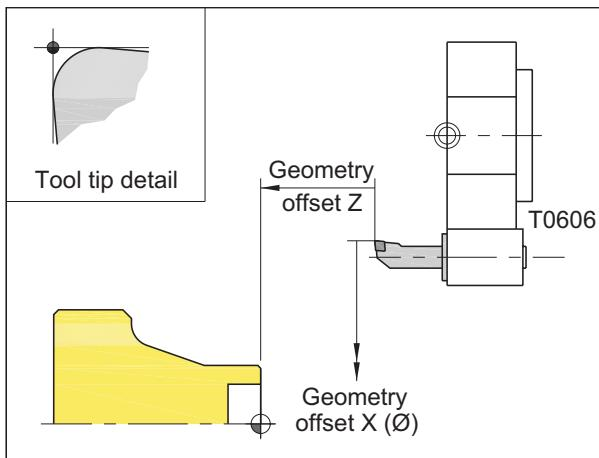

Figure 14-12
*Figure 14-12* shows a typical measurement of geometry offset applied to a common *internal* tool.